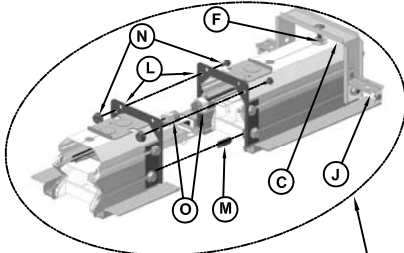

FIG. 8
MOUNT NEXT FIXTURE IN A SIMILAR FASHION AS FIRST FIXTURE SUCH THAT THE ALIGNMENT TABS (M) AND LAMP SOCKET PLATE FIT INTO THE FIRST FIXTURE. MAKE CONNECTION OF THE WIRE HARNESS (O) AND PUSH EXCESS WIRE BACK INTO FIXTURE. SLIDE FIXTURES TOGETHER, MAKING SURE THAT WIRE IS NOT PINCHED BETWEEN JOINT, AND BOLT FIXTURES TOGETHER WITH NUTS AND BOLTS (N) SUPPLIED. (REF. FIG. 8)